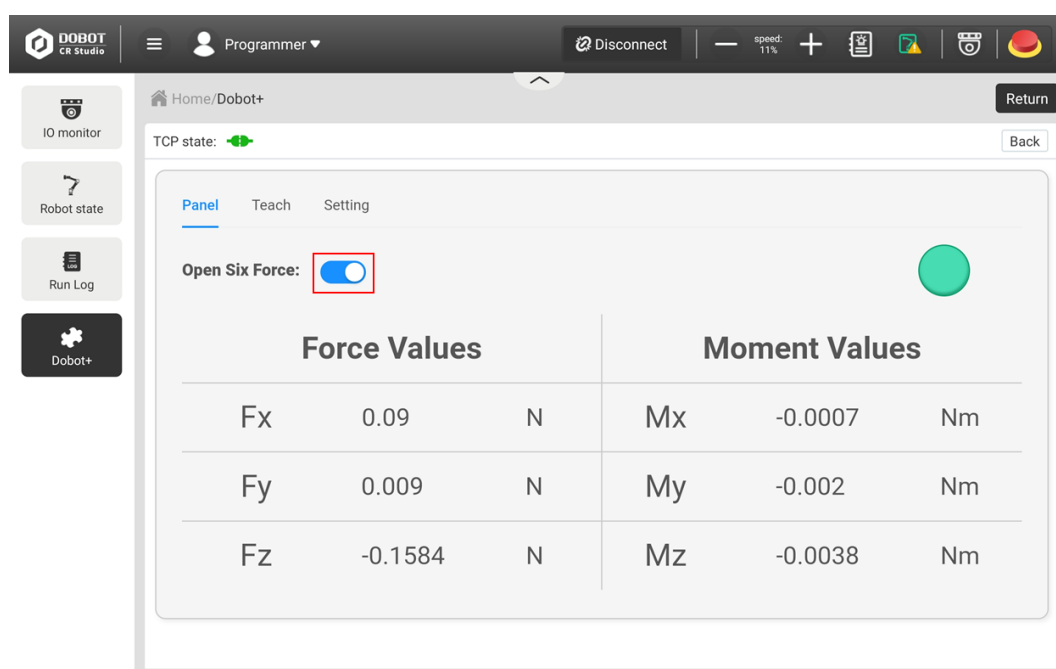

Figure 3.10 Open six force
Step 3 Enable **Open Six Force**, as shown in Figure 3.10. The Teach and Setting tabs are displayed on the page. You can reset and calibrate the sensor in Setting tab. You can adjust the dragging mode and speed in Teach tab. For detailed operations, see *4Sensor Calibration and Functions*.